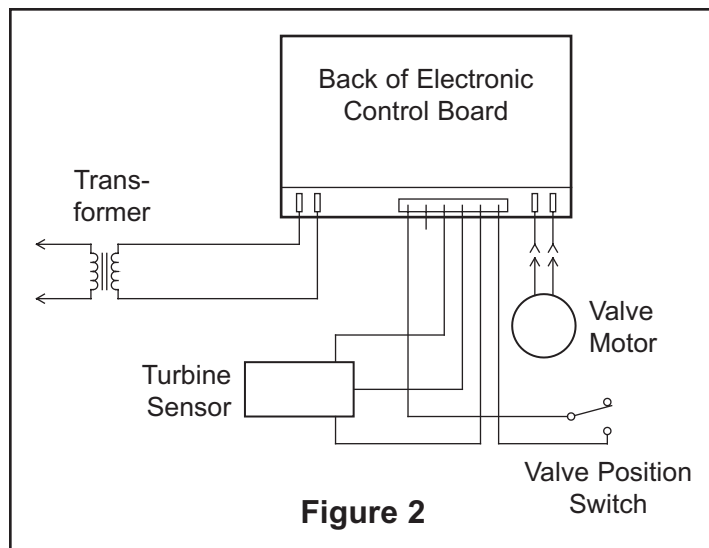

Figure 2
3. Unplug the wiring connections from the back of the old Electronic Control Board (See Figure 2).
6. Reconnect the wiring to the new board (See Figure 2).